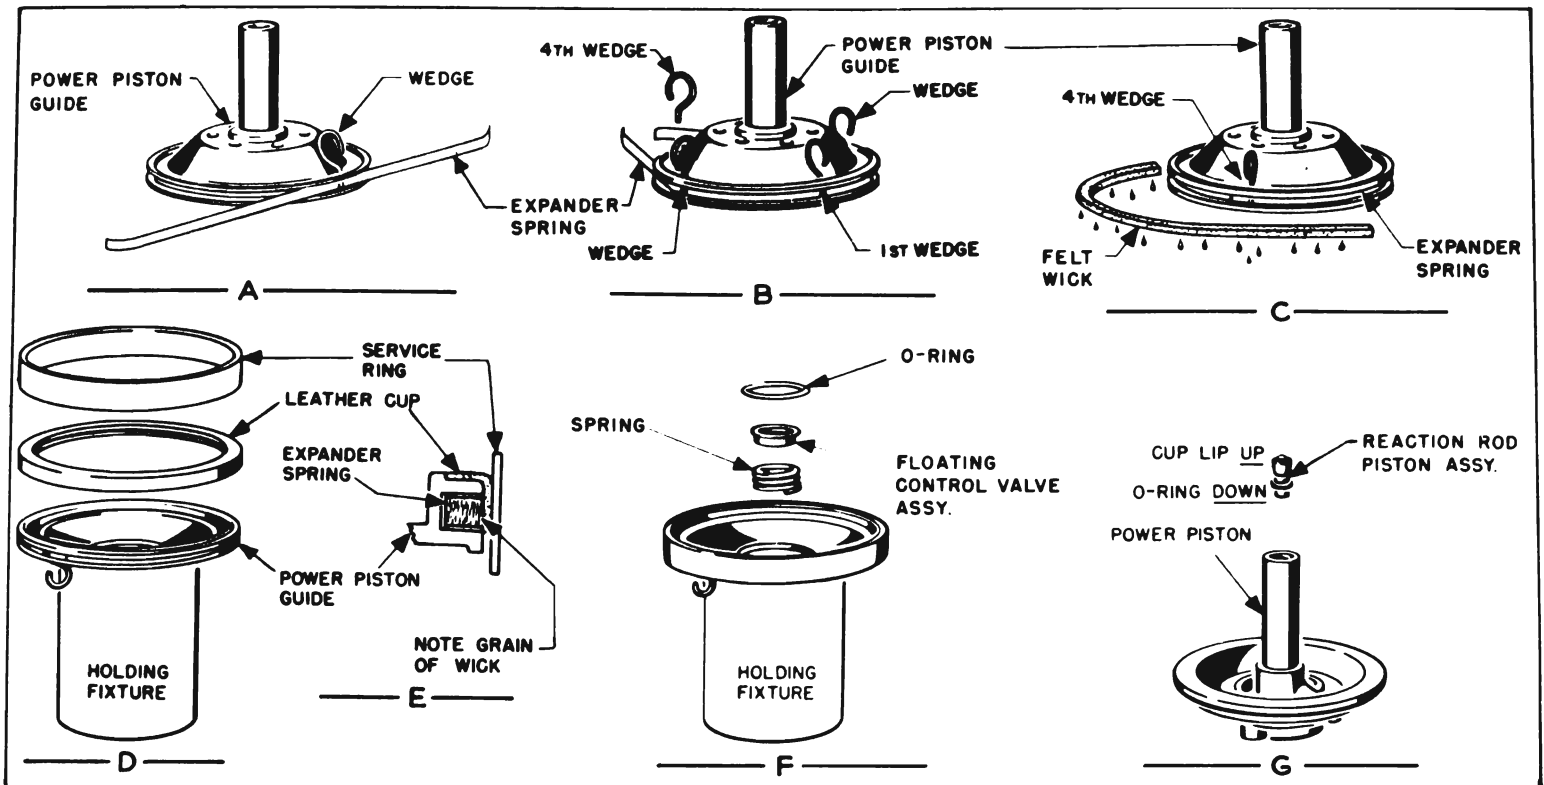

Figure 8-12—Guide and Piston Parts
1. Place expander spring in groove of power piston guide with *bent ends in*, so that approximate center of spring is at one of the slots in upper flange of guide, then insert wedge (supplied in kit) through slot to hold spring in place. See figure 8-12, view A.
2. Wrap each end of spring around piston guide and hold with wedges in two side slots. With ends overlapping under fourth slot, install wedge at this point then remove the first three wedges and *discard* them. See figure 8-12, view B.
3. Saturate the cup lubricating wick in special Power Brake Cylinder Oil supplied with parts kit. Place wick over expander spring *with grain of felt parallel to centerline of piston guide*. Be sure that ends of wick do not coincide with ends of spring. See figure 8-12, views C and E.
leather cup does not ride over the edge of guide and that cup flange lies flat against its face. See figure 8-12, views D and E.
5. Wet the diaphragm of a *new* floating control valve assembly with brake fluid, place spring over the retainer, then install these parts on piston guide. Press the diaphragm down over hub on guide, then install a *new* O-ring over the ridge around valve. See figure 8-12, view F.
7. Wet reaction cup with brake fluid and install reaction piston assembly in outer end of power piston sleeve with lip of reaction cup outward. See figure 8-12, view G.